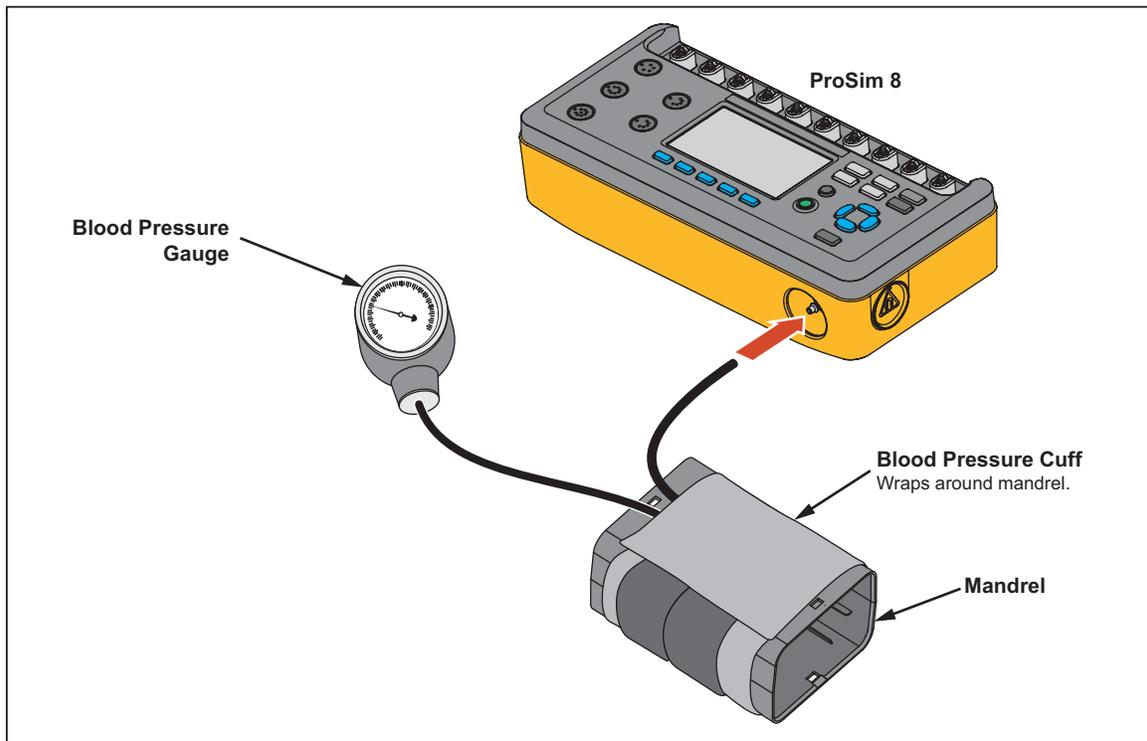

Figure 40. Pressure Source Connection
1. Connect the pressure port to pressure system as shown in Figure 40.